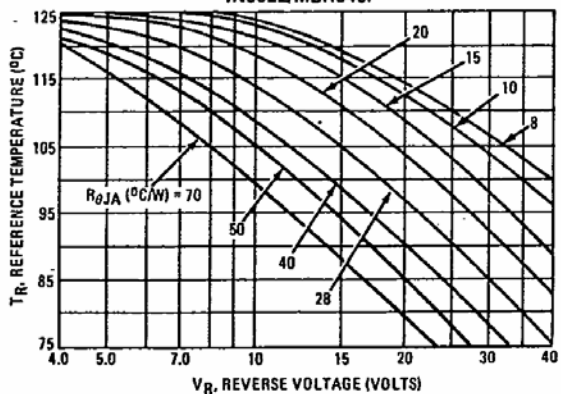

FIGURE 2 – MAXIMUM REFERENCE TEMPERATURE
Step 2. Find T_R from Figure 2. Read $T_R = 108^\circ\text{C}$ @ $V_R = 9.2$ V and $R_{\theta JA} = 40^\circ\text{C/W}$.